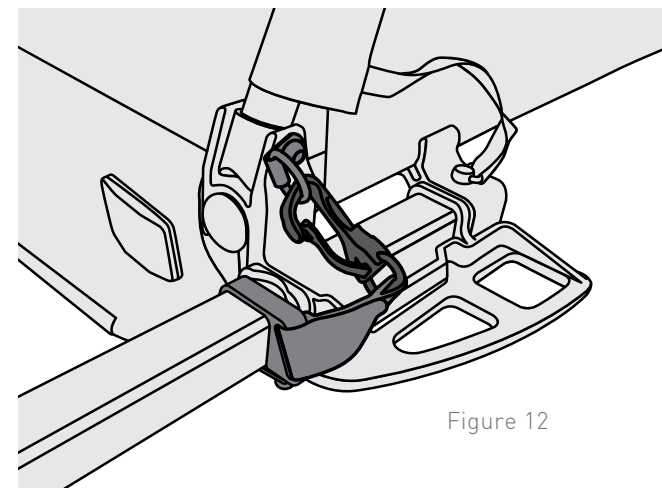

Figure 12
4. Clip the safety strap to the D-ring on the trailer frame (Figure 12).